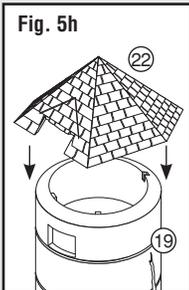

Fig. 5h
- Glue Silo Roof (22) to Silo (19) (Fig. 5h).